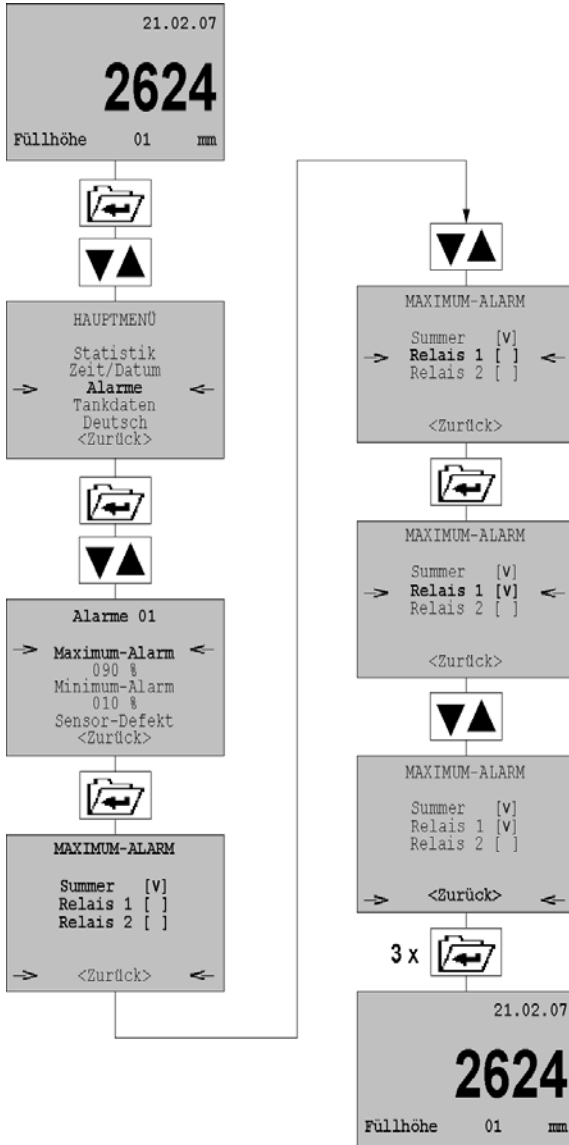

Fig. 13: Buzzer/relay settings; example: Maximum alarm
- ▶ Activate alarm menu 2 and continue as shown in fig. 13 on page 31.